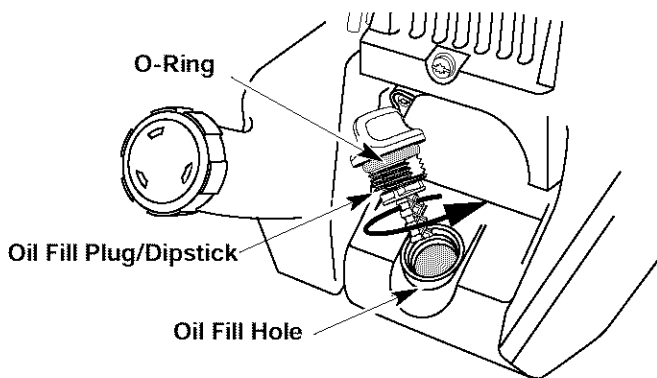

Fig. 17
6. If the level is low, add a small amount of oil to the oil fill hole and recheck (Fig. 17). Repeat this procedure until the oil level reaches the top of the dipstick.
NOTE: Make sure the O-ring is in place on the oil fill plug/dipstick when checking and changing the oil (Fig. 17).